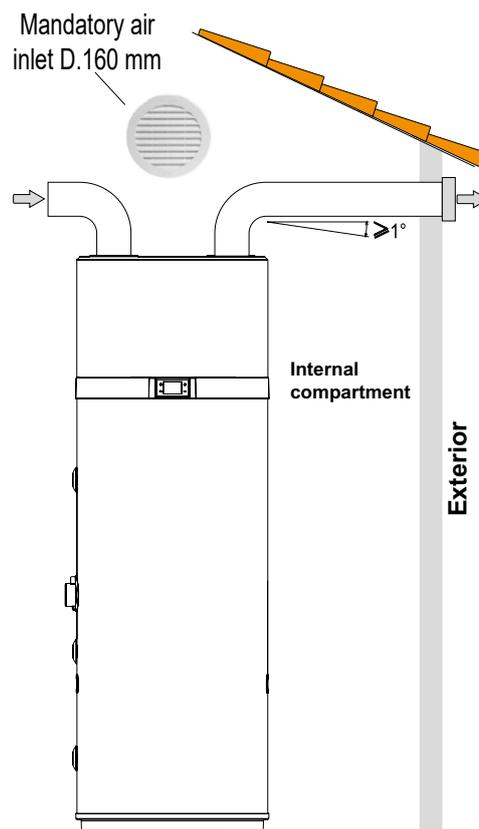

fig. 53- Example of air outlet connection
- Create a dedicated air duct as indicated in fig. 53.